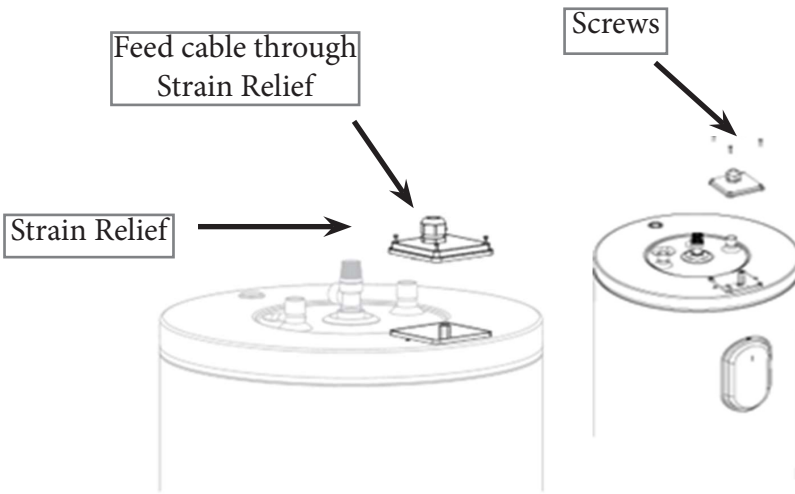

Fig. 6
1. Remove the lid of the junction box by unscrewing the 4 screws as shown in Figure 6.
2. Loosen strain relief and place electrical cable through the strain as shown in Figure 6.